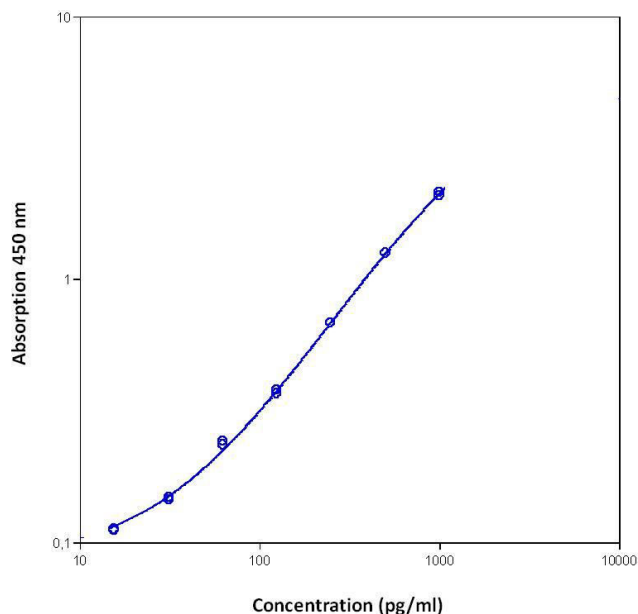

Fig. 4 Representative standard curve for human sCD105 Instant ELISA. Human sCD105 was diluted in serial 2-fold steps in Assay Buffer.
- A representative standard curve is shown in Figure 4.